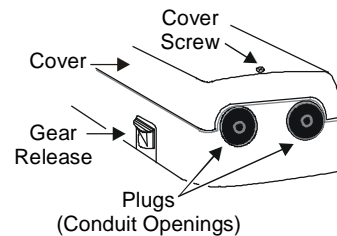

Figure 4: Location of the Conduit Openings
2. Push the plastic conduit plug out of the conduit opening with fingertip. (See Figure 4.)